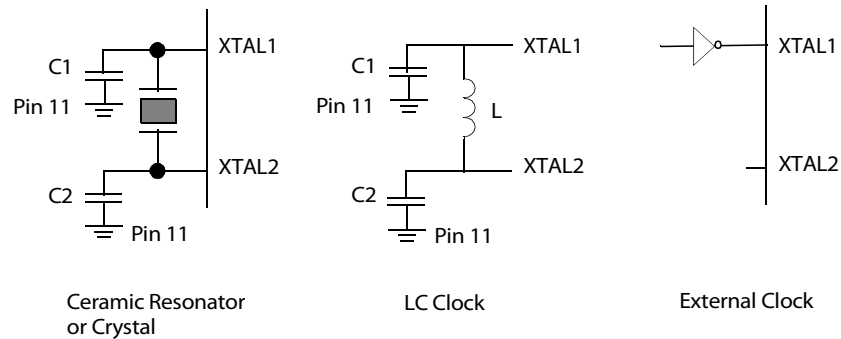

Figure 19. Oscillator Configuration
The Z86E61/Z86E63 MCU's on-chip oscillator features a high gain, parallel resonant amplifier for connection to a crystal, LC, ceramic resonator, or any suitable external clock source (XTAL1 = Input, XTAL2 = Output). The crystal should be AT cut, 1 MHz to 20MHz max; series resistance (RS) is less than or equal to 100 Ohms. The crystal should be connected across XTAL1 and XTAL2 using the recommended capacitors ($10\text{pF} < \text{CL} < 100\text{pF}$) from each pin to ground; see Figure 19.